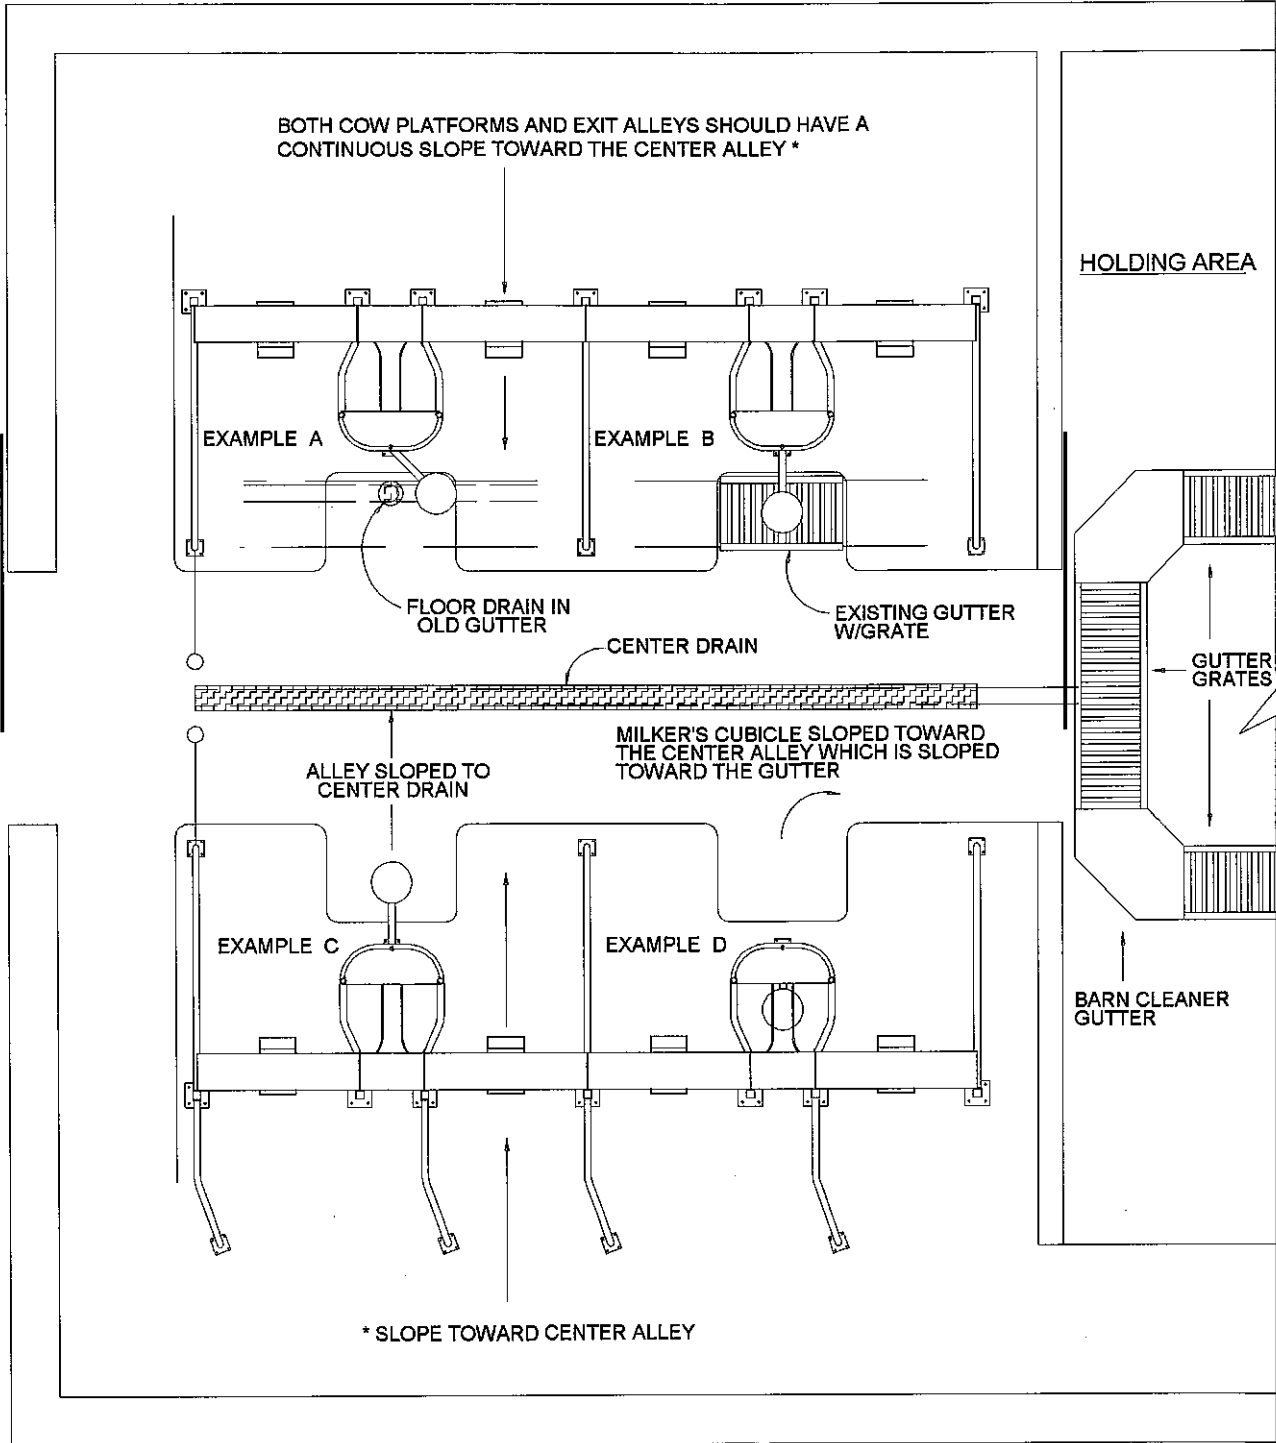

Figure 5.
**In order to prevent serious injury to those who are milking and the animals, the portion of the gutter exposed in the milkers cubicle should be covered with some type of grating as shown in figure 5.**